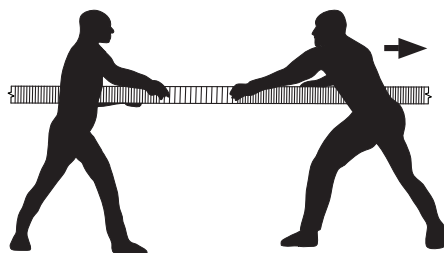

Figure 5
- Start by facing each other at the mid-point in the liner (**Figure 5**).